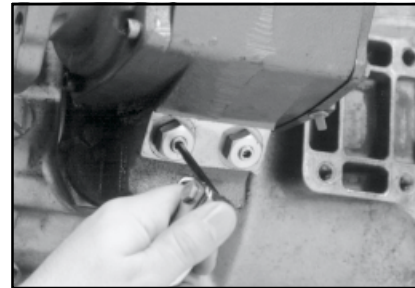

Figure 7
8. There are two (2) large drilled and tapped holes on the 231 and 271 series P.T.O. housing (Fig 7). These two holes come with plugs installed.